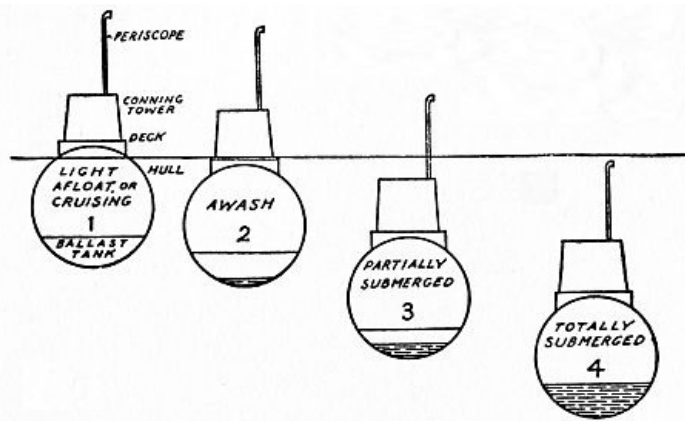

FIG. 26. HOW THE SUBMARINE SUBMERGES OR THE FOUR STATES OF THE SUBMARINE.
The Four States of the Submarine.—A submarine has four states, or conditions, in which it exists in the water. These are (1) the *light*, or surface cruising condition; (2) the *awash*, or partly submerged condition; (3) the *submerged* condition; and (4) the *totally submerged* condition—all of which is clearly shown in the diagram Fig. 26.